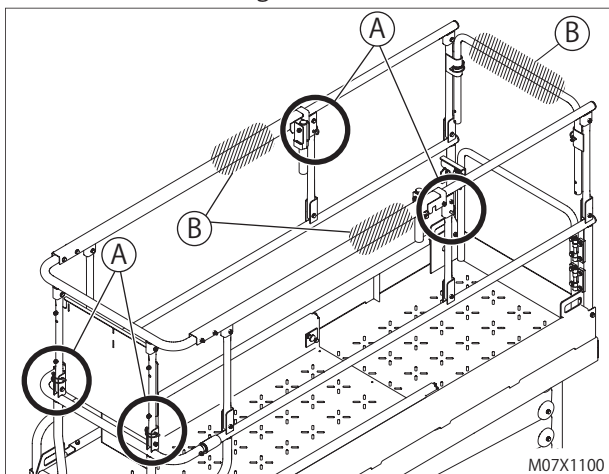

fig. 8-8
- (4) Hold the areas B (see fig. 8-8) of the guardrails so that they do not fall down. Remove the lock pins A (see fig. 8-8), which lock the guardrails.